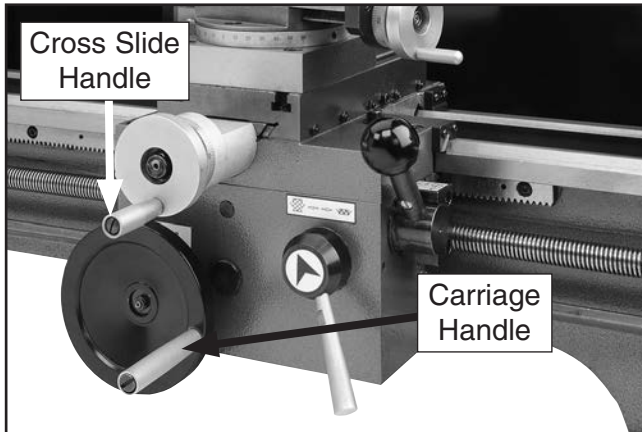

Figure 14. Handwheel handles installed.
1. Use a flat head screwdriver to attach handwheel handles shown in **Figure 14**.